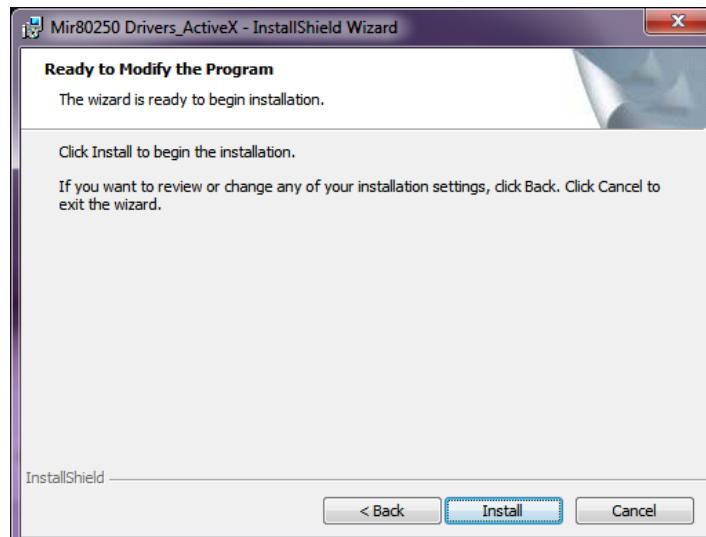

Figure 15: Run Active X Installer
7. Click “Next” as shown in Figure 15 to begin running the installer.